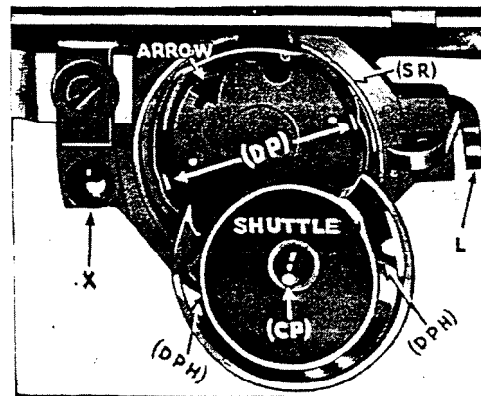

FIGURE 16
See Figs. 15-16. With the head tipped back on its hinges, turn the disc wheel by hand until the point of the needle just enters the needle plate hole and so the arrow and the word "top" is exactly in the position shown. With the thumb and first finger of the left hand take hold of the center pin (CP) and hold the shuttle exactly in the position as shown in Fig. 16, so the word "top", stamped on shuttle, lines up with the word "top" in driver, then the driving pin holes (DPH) will slide over driving pins (DP) easily, and without forcing, allowing the rim of the shuttle to enter the shuttle race readily. The shuttle race cover will then go into place easily, the fork at one end fitting back of pin (X) and the slot in the other end passing over latch (L) which will snap back to its holding position when the shuttle race cover is pushed back into place.